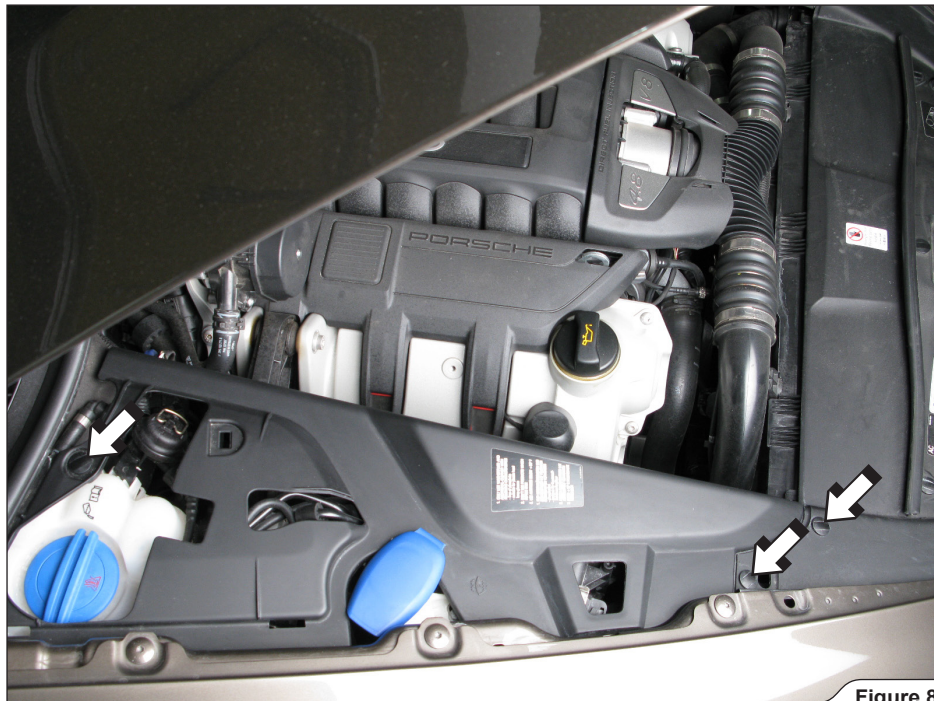

Figure 8
8. Undo the marked plastic fasteners and remove the right engine compartment cover (**Figure 8**).